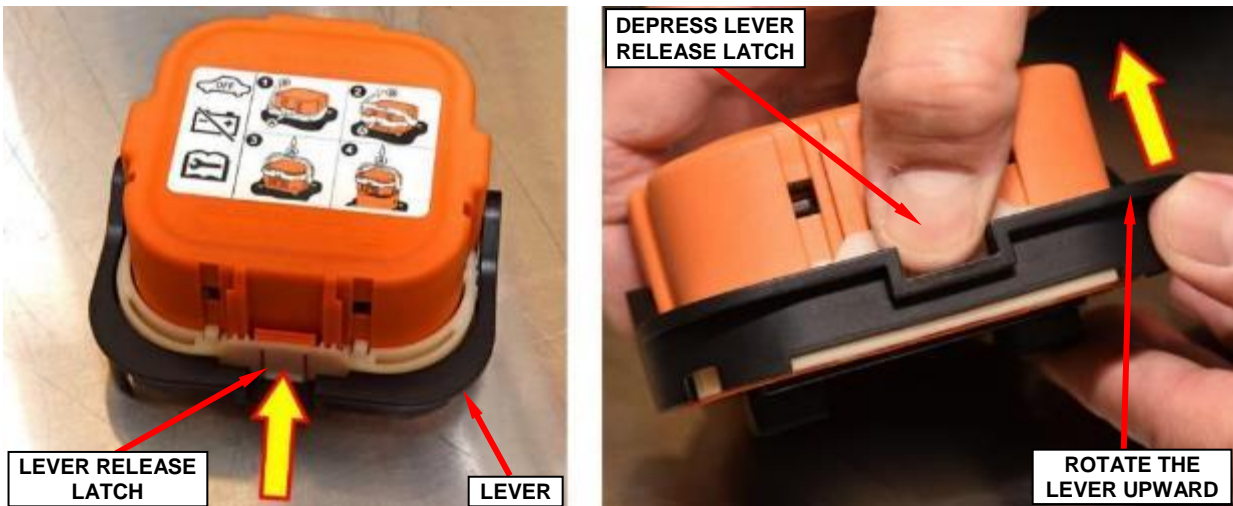

Figure 10 – High-Voltage Manual Service Disconnect First Stage Latch Release (High-Voltage Manual Service Disconnect Removed from Vehicle for Visual Clarity)
- Depress the lever release latch firmly. With the latch fully depressed, rotate the lever upward. The lever will stop at the 45° position (Figure 10).